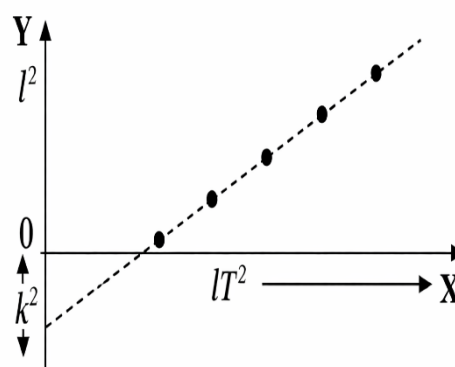

Fig. 05.06
A graph between l^2 and lT^2 should therefore be a straight line with slope $g / 4\pi^2$, as shown in (Fig. 05.06). The intercept on the y-axis is $-K^2$.
13. Alternatively, plot a graph between T^2 (X-axis) and l (Y-axis). This graph will be a straight line. From its slope, determine the value of g (see Fig. 05.06).